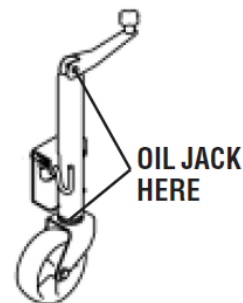

Figure 16
8. Jacks (Optional) - Oil jacks as shown in figure 16. 6 months